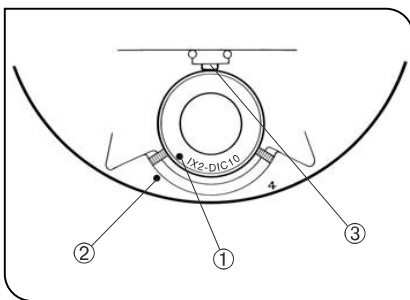

Fig. 44
2 Attaching the DIC Optical Elements (Fig. 44)
- Align the positioning index ① on the DIC prism with the positioning index ② on a turret position and insert the DIC prism all the way into the turret position so that the DIC prism's frame hits the bottom of the position and the prism's positioning pin fits into the pin hole. When inserting, push the spring ③ inside the turret slightly sideward. (Fig. 44)